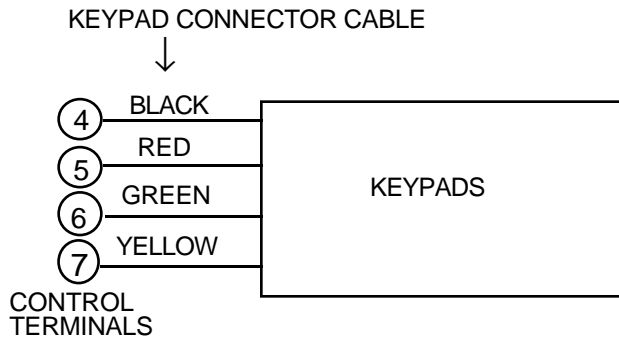

Figure 5. Keypad Connections To The Control Board
3. Connect remote Keypads to terminals 4, 5, 6, and 7 on the control board, as shown in Figure 5.